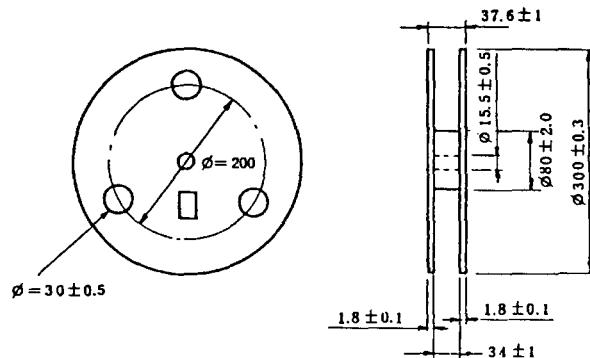

Fig. 6-3 Reel for taping
- (2) Winding reel shape and dimensions (Fig. 6-3)